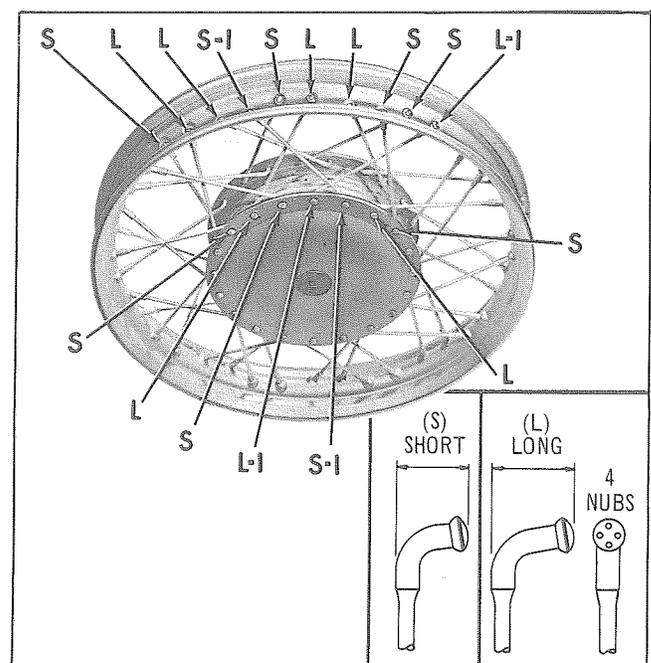

Figure 2C-14A. Lacing Front Wheel (1964 And Later)
Note that there are two types of spokes, long and short at bent end as shown in Figure 2C-14A. One long and one short spoke are used in each pair. The long spoke (L) of each pair on rim crosses over to opposite side of hub while the short spoke (S) of each pair on rim connects to same side of hub. Spoke arrangement is shown in figure 2C-14A.